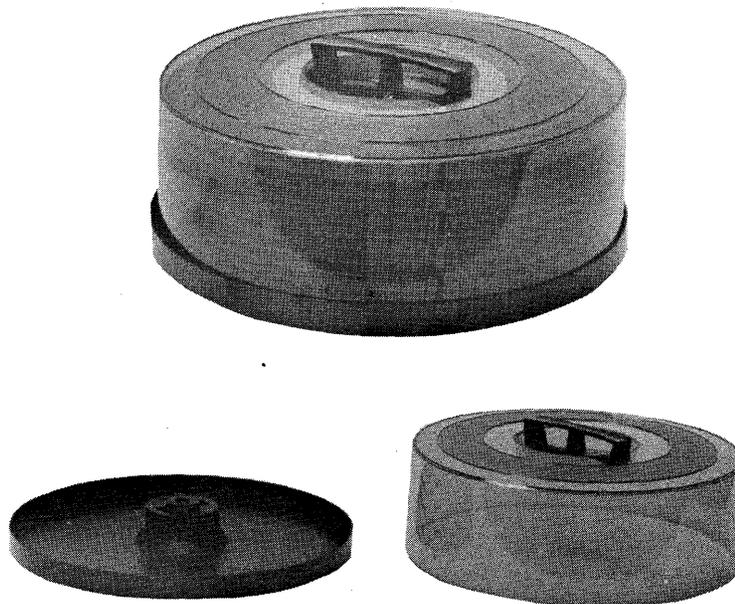

Figure 3-14. Disk Pack
1. Invert the disk pack and rotate the handle counter-clockwise until it stops. See Figure 3-14.